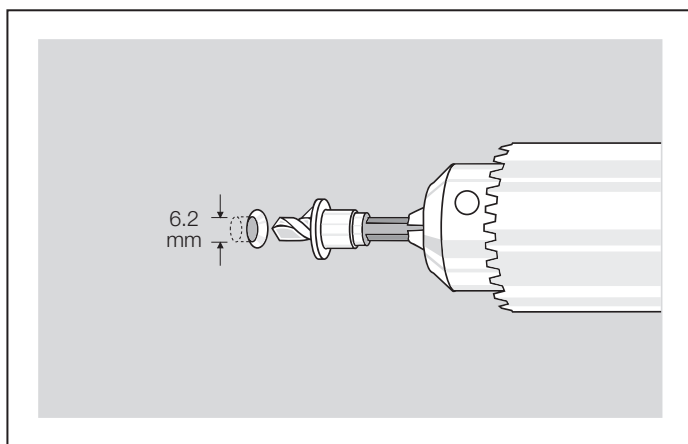

FIGURE 10 DRILL COUNTERSINK HOLE
2. Drill clearance holes into ExoTec facade panel, for No.10 gauge screws using a 6mm countersunk masonry drill, which provides a 6.2 to 6.3mm diameter hole, see Figure 10. countersink hole to a depth of 2.5mm to 3mm. This is measured from the top of the screw to the top of the sheet, see Figure 15.